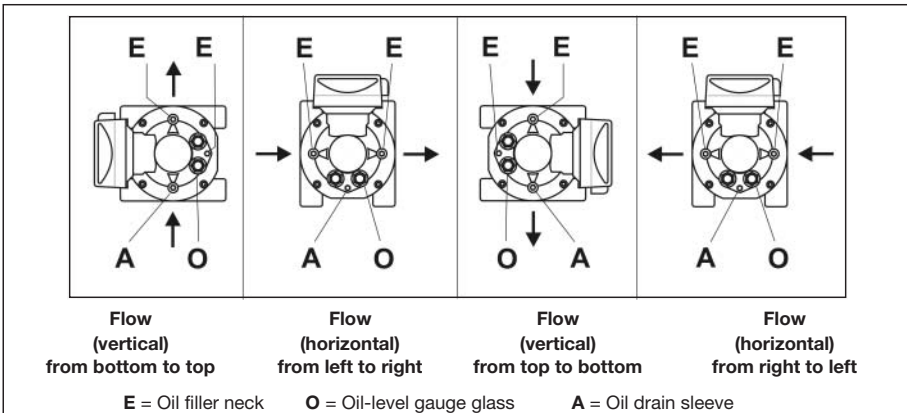

Figure 6: Permitted operating positions, oil filling and oil-level display for **Type RVG**
- There are three openings available for filling or draining oil, and two oil-level gauge glasses on the front and (optionally) on the rear of the meter (Figure 6).
- Unscrew and remove the oil filler plug (E, Figure 6) from the front housing cover.
- Remove one oil filler plug (E) from the rear housing cover, so that the oil can flow more easily into the rear oil chamber.